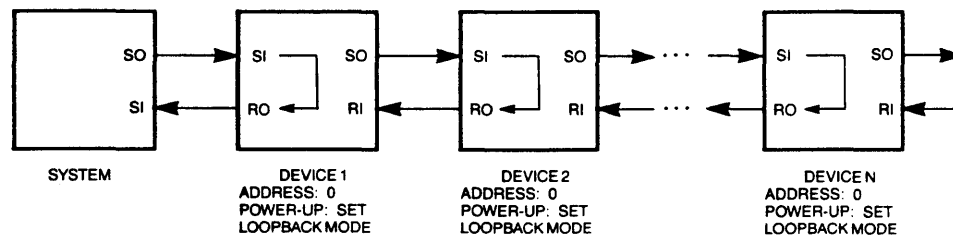

Figure 4-2. Link Power-Up State
When the MLC has passed its test, control passes to the next oval and a DHR (Device Hard Reset) is sent. The device count (DC) is cleared at this point. Because DHR should not be received by the MLC, the correct action will be a timeout occurring. An interrupt indicates a frame was received which is not expected. For an interrupt or an error, the action repeats by issuing another DHR. A stop point could be inserted here if additional DHRs do not correct the problem. All devices on the Link should now be in Loop-Back Mode, Power-Up Mode (PUP Mode), and have a cleared match address (=0). Graphically, the condition of the Link is shown in Figure 4-2. A more detailed discussion of PUP Mode can be found later in this section under "HP-HIL Device Operation and Control Diagrams."